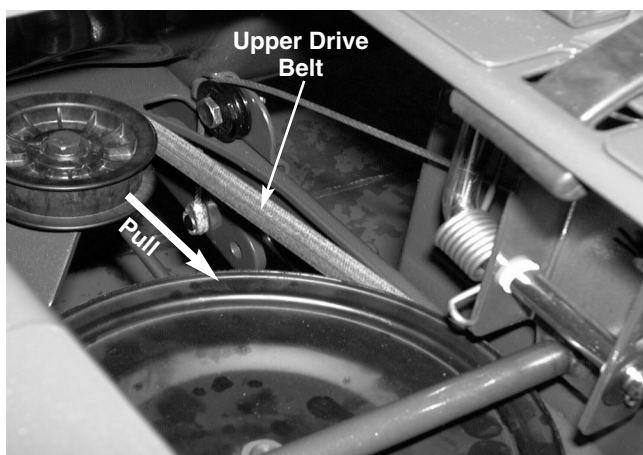

FIGURE 3.
- 4). Pull the transmission idler pulley towards the transmission and release the upper drive belt. See figure 3.